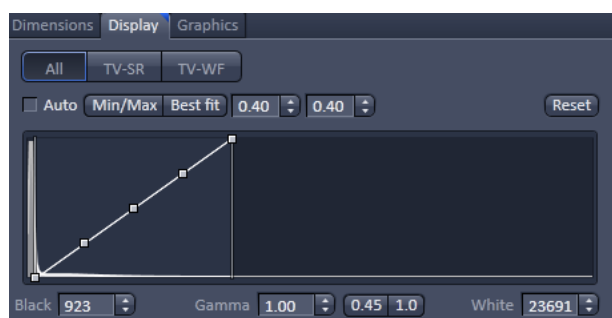

Fig. 38 Display view control tab
- When the image is saturated with the slider in the **Display** view control tab at **Reset** (linear), reduce AOTF transmission in the **Laser** control section of the **Channels** tool (Fig. 38).
- If the slider in the Display view control tab is offset from the Reset (linear) position, red as well as blue pixels can also occur. Use the slider to set contrast and brightness to values that avoid red and blue pixels. (Fig. 38).